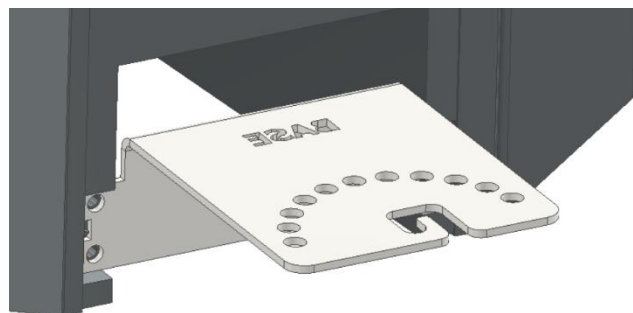

Figure 5
Unscrew the four (4) screws on the top of the speaker and remove the handle. Then unscrew the four (4) screws on the bottom of the speaker and remove the handle. Then take the Base fin and orientate it so the largest side faces down as shown in Figure 5. Screw in four (4) mounting screws that was used to hold the handles.